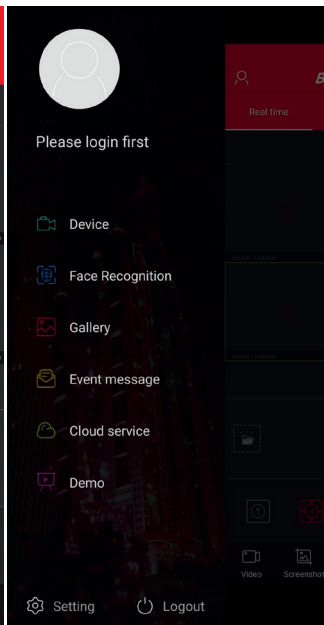

Fig.19
- Next, swipe to the right or click in the upper left corner of the application in order to unfold the submenu (Fig. 19).